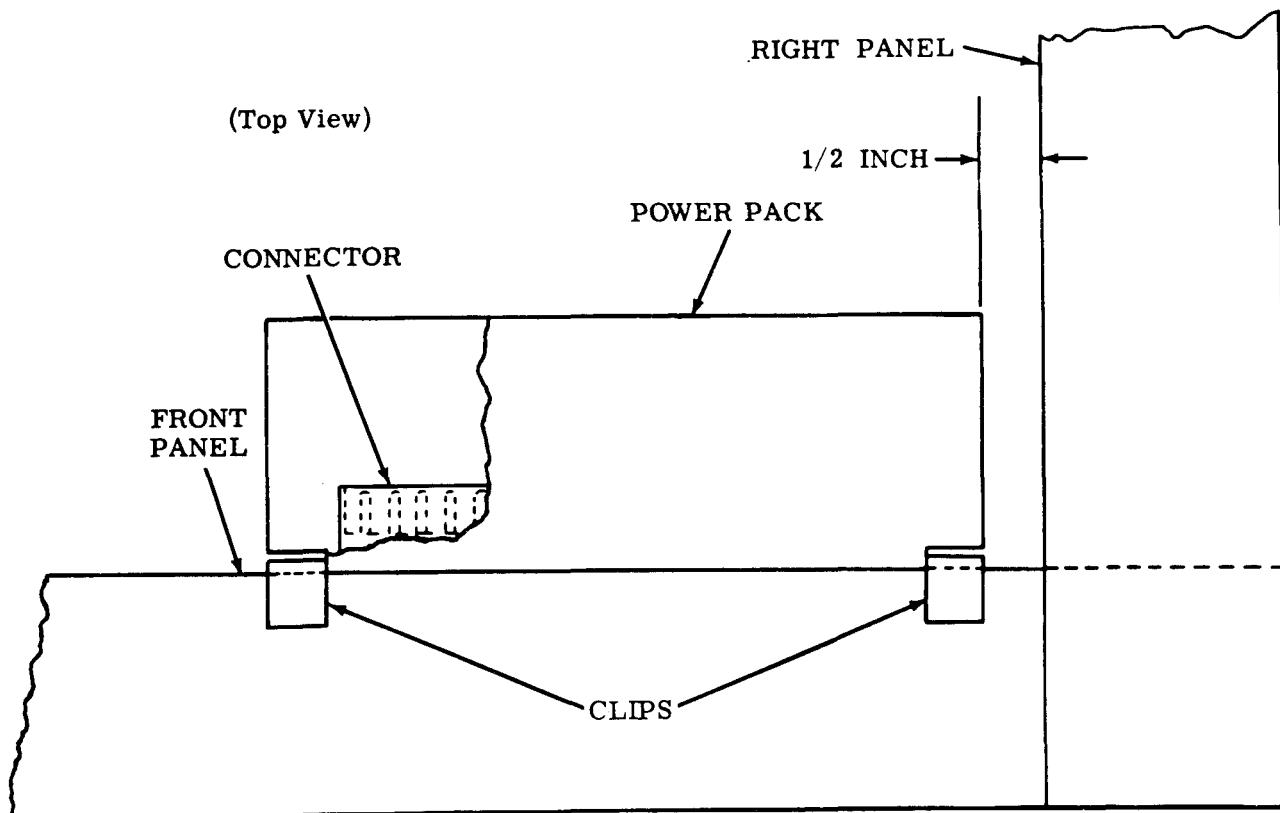

Figure 16 - Power Pack Assembly
**5.01** The 3300 Series Coded Sets and Computer I/O Sets have the power pack for the tape reader mounted in the call control unit. Therefore no installation is required. For 33 sets, the reader power pack mounts inside the stand, underneath the base. Two clips attach the power pack to the stand at the left front corner when the set is viewed from the rear. See Figure 16.